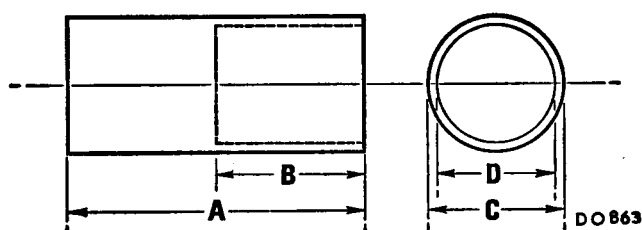

Fig. Nb.19
37. Fit a tube of the dimensions given in Fig. Nb.19 over the slip-ring moulding so that it registers against the outer track of the slip-ring end bearing and carefully drive the bearing from its housing.